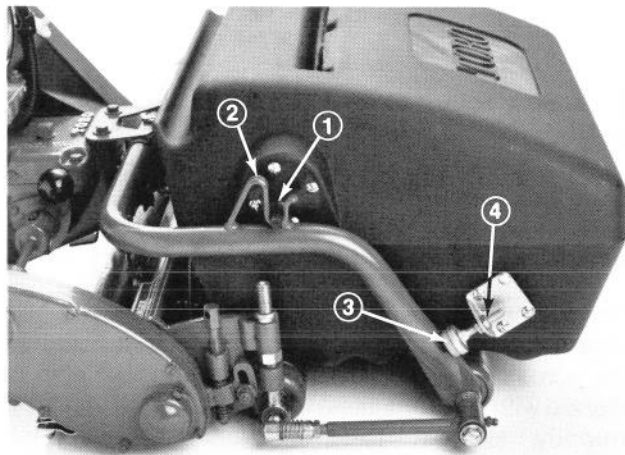

Figure 15
1. Set pins on basket pivots into brackets on yoke and allow basket adjusting brackets to rest onto yoke (Fig. 15).
Note: Basket should be lower in front to assist clipping throw into basket. Adjust brackets to lower basket (Fig. 15). Make sure basket clears roller by at least 1/16 in. (1.6 mm).
3. Loosen jam nuts on each side of basket and rotate adjusting brackets (Fig. 15). Be sure dimension is equal on both ends of unit and tighten jam nuts.